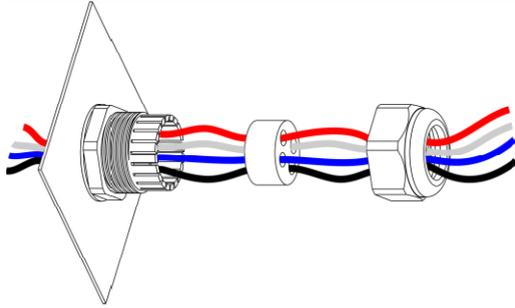
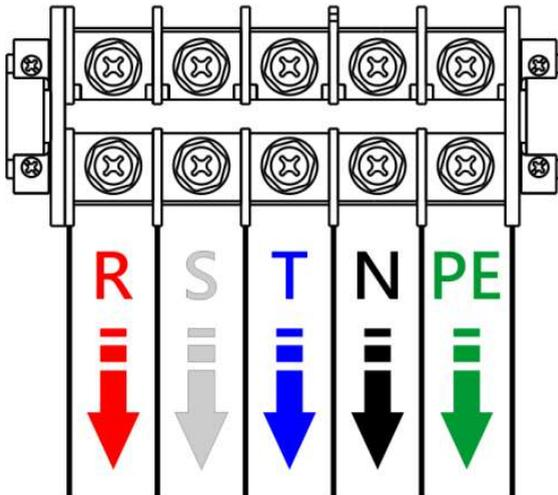

Figure 4
Figure 6
Step 3: Loosen the thread locknuts of the AC output and the system PE, select the suitable water-proof plugs (4-hole\_R, S, T, N and single-hole PE) from the AC accessories based on the recommended wire diameters, push the wires through the water-proof plugs as shown in Figures 4 and 5 (do not damage the water-proof plug structure to avoid humidity seeping into the converter's interior), and wire the AC output according to the terminal indications of Figure 6. When wiring the AC terminal, 8.0 Nm torque must be applied for proper tightening.